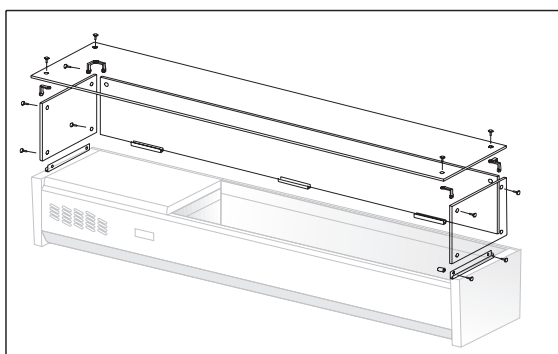
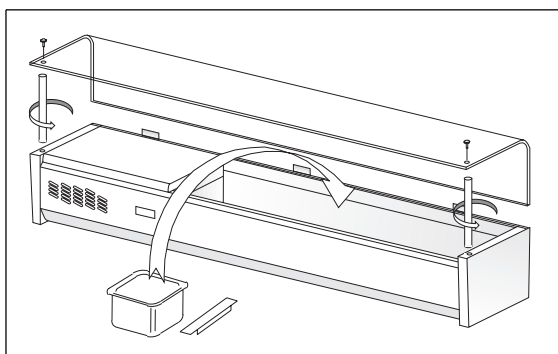

Fig.5
Fig.6
- perform the assembly of the glass components by fixing them in their seats and joining them together using the special glass blocking screws (Fig. 5 / Fig. 6)
- position the Gastronorm trays support crossbars (Fig. 6)
- provide the Gastronorm trays (Fig. 6)